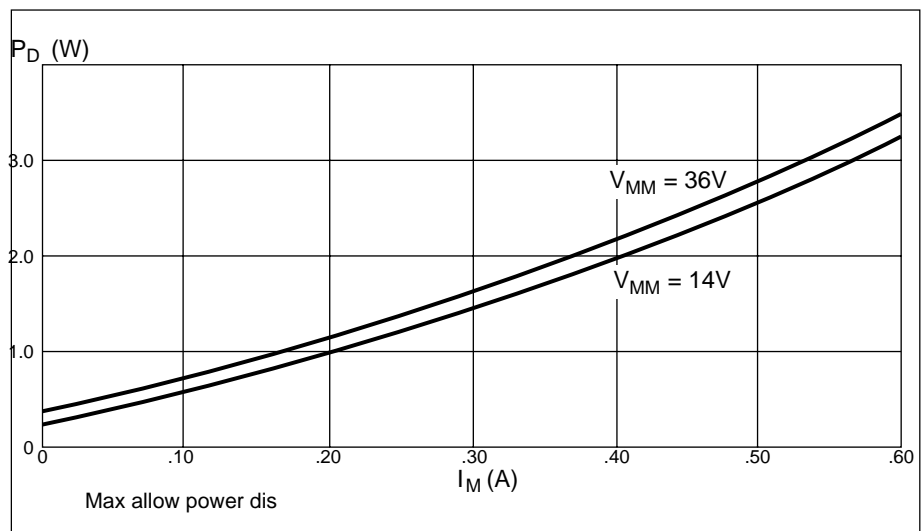

Figure 12. Power dissipation vs. motor current, both channels driven,  $T_a = 25^\circ\text{C}$ .
**Heat sinking.** Soldering the four center pins onto a free PCB copper area of 20 cm2 (approx. 1.8" x 1.8", copper foil thickness = 35 μm) permits the circuit to operate with a maximum of 320 mA output current, both channels driving, at ambient temperatures up to +70°C. Consult figures 12 and 13 in order to determine the necessary copper area for heat sinking if higher currents are required.